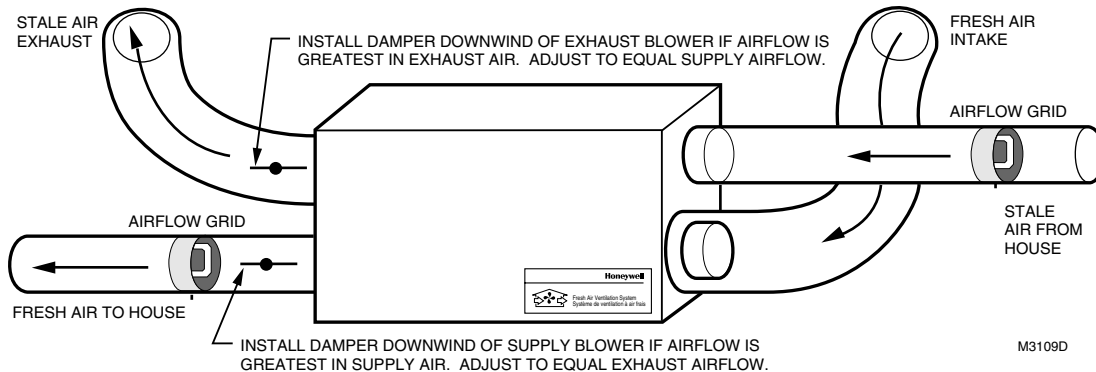

Fig. 10. ER200 balancing airflow.
- Airflow is greater in supply air section of Fresh Air Ventilation System—install a damper on the downwind side of the ventilator (warm side) and adjust until the airflow is within  $\pm 10$  percent of the exhaust airflow. See Fig. 10.
- Airflow is greater in exhaust section of Fresh Air Ventilation System—install a damper on the downwind side of the exhaust blower (cold side) and adjust until the airflows are within  $\pm 10$  percent. See Fig. 10.